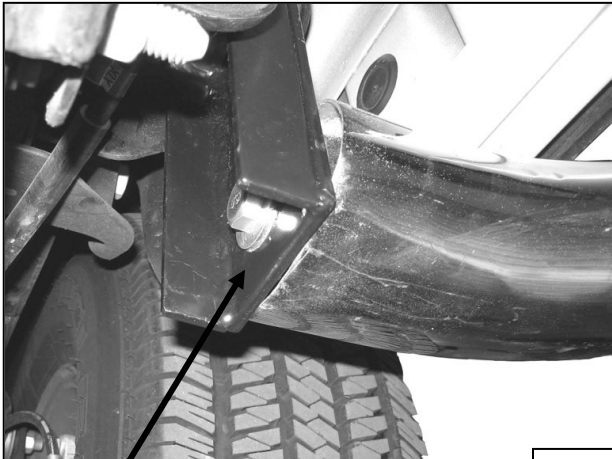

Fig 3
**NOTE:** For 06-On vehicles, use existing factory body mount bolts to attach Mounting Brackets to the vehicle. For all other applications, use the included (4) 12mm x 120mm Hex Head Bolts, (4) 12mm Flat Washers, and (4) 12mm Lock Washers.
- Attach driver Sidebar to Mounting Brackets using the included (2) ½" x 2" Hex Head Bolts, (2) ½" Lock Washers, and (2) ½" Flat Washers (**Figure 3**). Do not tighten at this time.